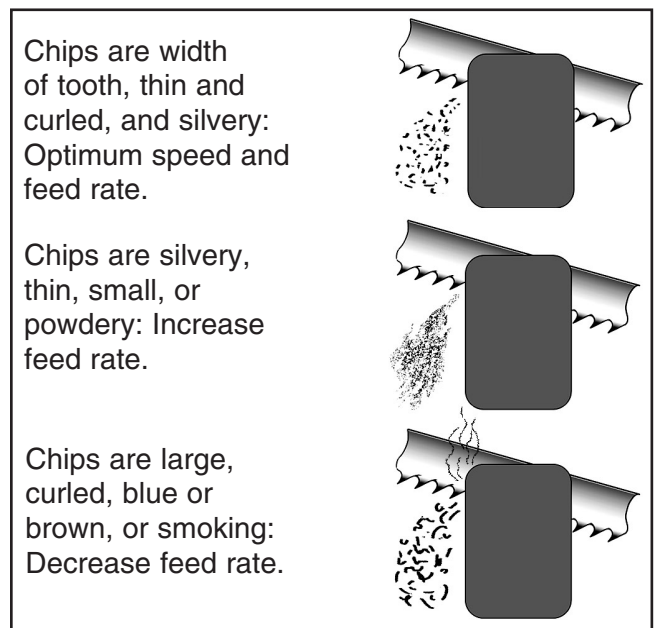

Figure 22. Reading chip characteristics.
7. Observe the chips that exit the cut, and increase or decrease the feed rate according to the chip characteristics (see **Figure 22**).